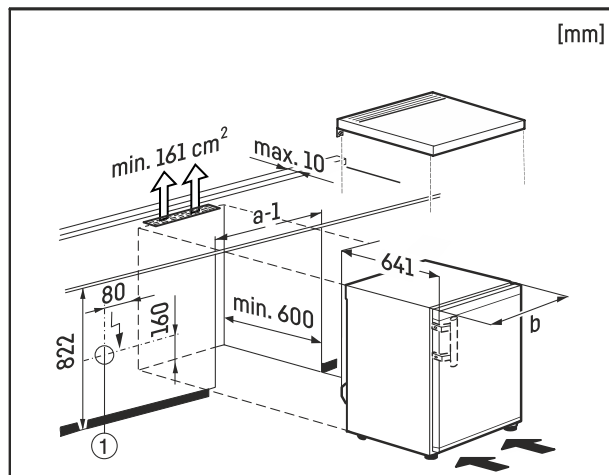

Fig. 8
The socket Fig. 8 (1) must be away from the rear of the appliance and must be easily accessible.